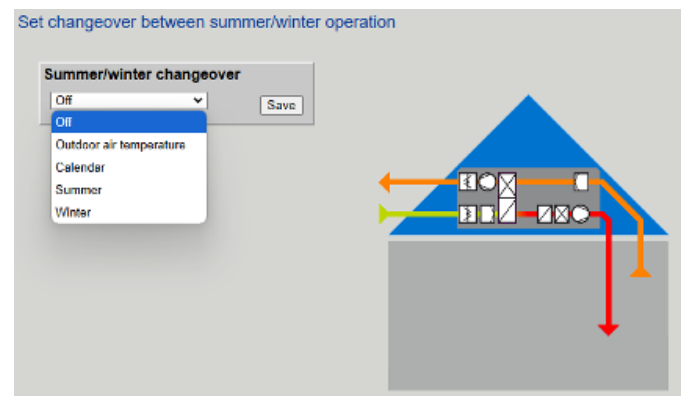

Fig. 31: Summer/winter changeover
- Select the desired control type from the drop-down list ( Fig. 31 /1).